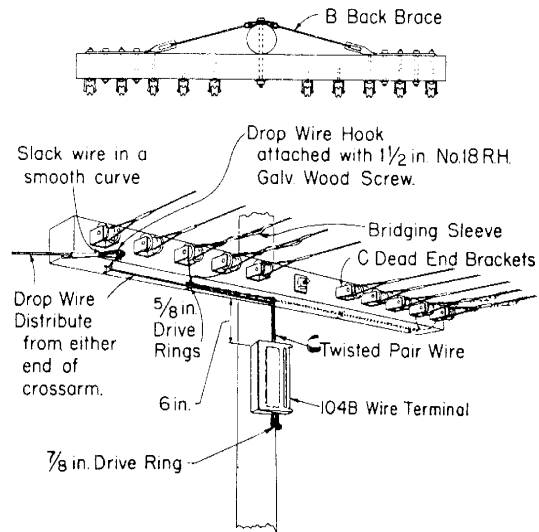

**Fig. 4 — Wiring Arrangement on DE Crossarms Not Having Back Braces**
**4.11 Crossarms Equipped with Deadend Brackets (Fig. 4).**
**4.13 At double crossarms equipped with dead-end brackets, follow the general wiring method shown in Fig. 4, locating the 101B terminal on the outer side of the crossarm not equipped with deadend brackets. Locate the wire run on the underside of the same crossarm.**